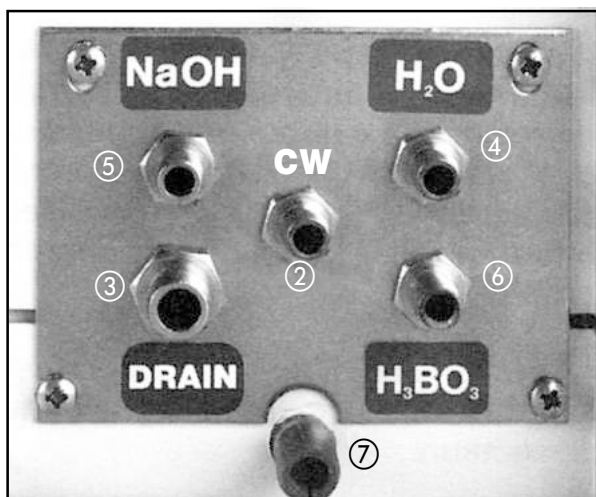

Figure 4: Back side/water connections
- ① Cooling water input (not visible on Figure 4)
- ② Cooling water exit
- ③ Drain to waste
- ④ H₂O input from 10l tank
- ⑤ NaOH input from 10l tank
- ⑥ Boric acid input from 10l tank
- ⑦ Overflow exit